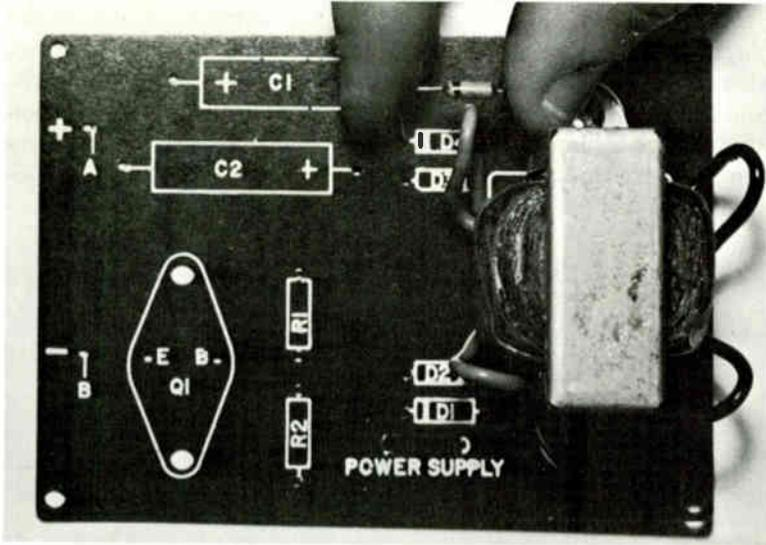

Fig. 66 Mounting the PC components on the board.
Today, very little electronic equipment is manufactured that doesn't use printed circuit (PC) boards. PC boards are rugged and inexpensive, and provide for uniformity during production. Usually, the components are mounted on one side of the board (Fig 66). The leads are then soldered to the copper foil and clipped close on the other side of the board.